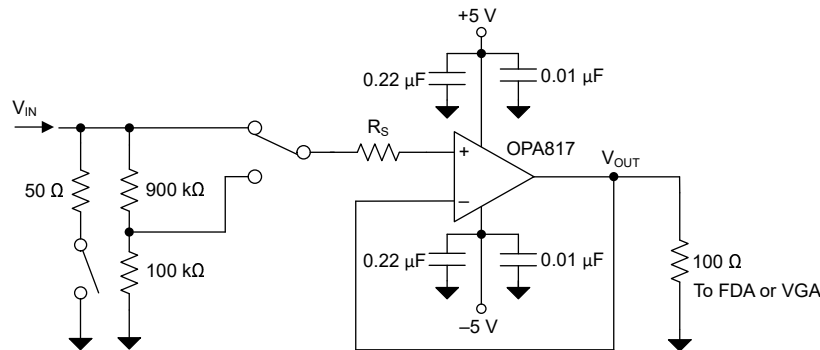
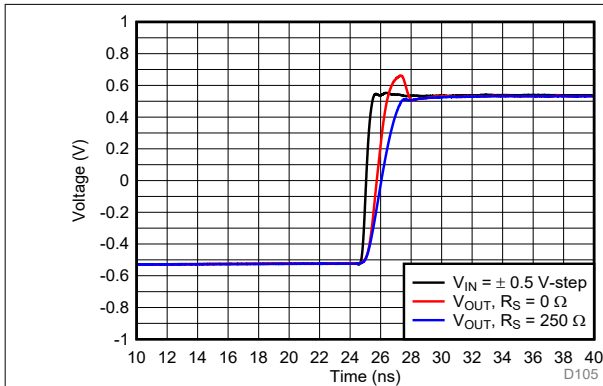
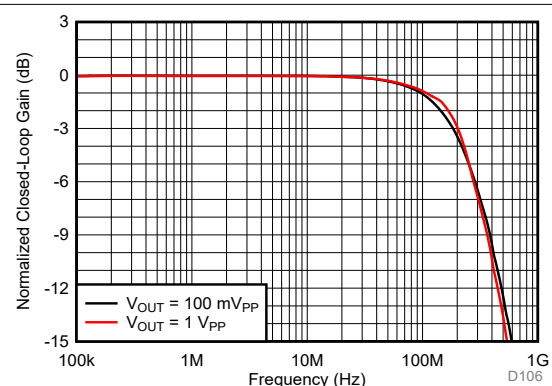

图 9-3. High Input Impedance, 200 MHz, Digitizer Front-End Amplifier
图 9-4. Step Response of Digitizer Front-End
图 9-5. Frequency Response for $R_S = 250 \Omega$
- Optimizing Overshoot:** The OPA817 features an internal slew-boost circuit to deliver fast rise-time in applications needing high slew rates such as when configured as a transimpedance amplifier. For applications where overshoot needs to be limited, the input slew rates can be limited with introducing a series resistance (R_S) as shown in 图 9-3. The resistance R_S forms a low pass filter with the input capacitance of approximately 2.6 pF at the noninverting pin of the OPA817 limiting the input slew rate to the amplifier. 图 9-4 shows how limiting the input slew rate to the amplifier results in good overshoot performance, and 图 9-5 shows how this achieves a small signal and large signal bandwidth of 200 MHz.